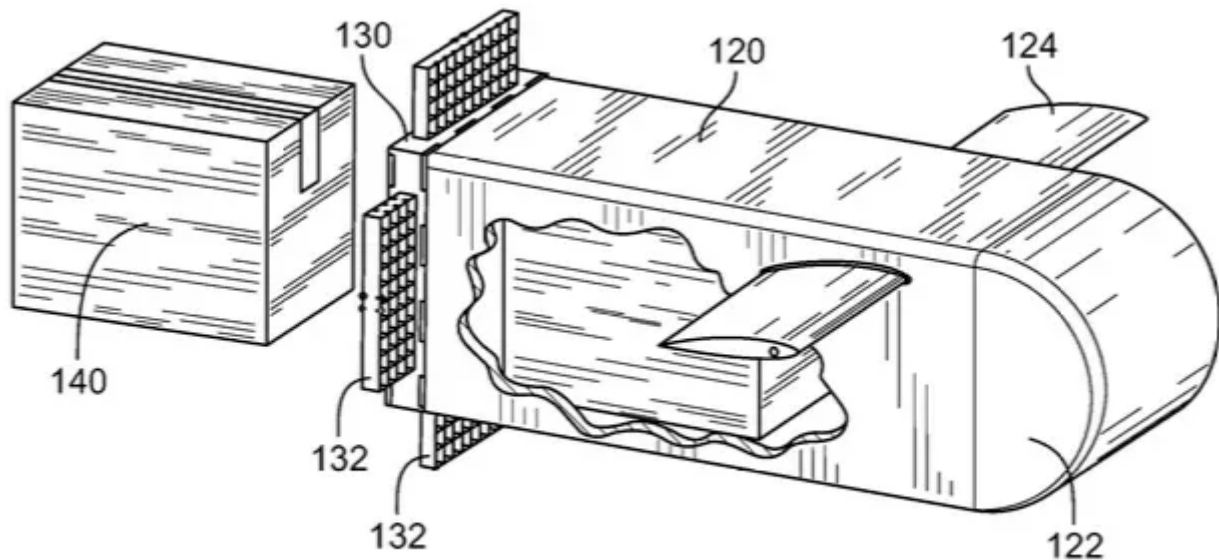

FIG. 4
[0025] FIG. 4 depicts the DASH device and its cargo.
[0044] Reference is now made to FIG. 4, which is a depiction of one embodiment of a DASH vehicle (3). In this preferred embodiment, the DASH vehicle includes a vehicle body (120), a tail kit section (130) and a shipping box (140).